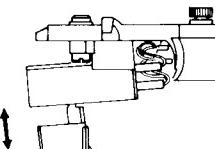

Fig. 19
1. Insert the lug of the stylus assembly vertically (Fig. 19).